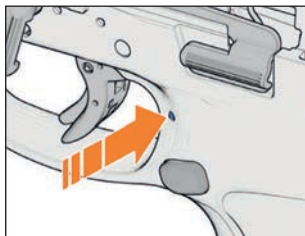

Figure 45 – Driving out clamping sleeve
2. In case of weapons with clamping sleeve for magazine catch: Drive out clamping sleeve with pin punch (Figure 45).